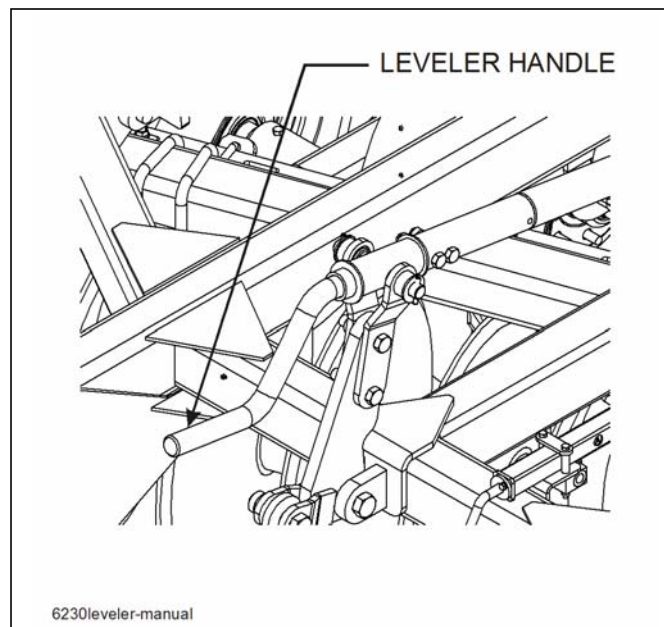

Figure 4-12: Manual Leveler Adjustment
3. On machines with manual leveler adjustment, turn the leveler handle in or out to adjust the front-to-rear level (**See Figure 4-12.**) By turning the leveler handle in (clockwise) will lower the rear gangs in deeper. By turning the leveler screw out (counter-clockwise) will raise the rear gangs.